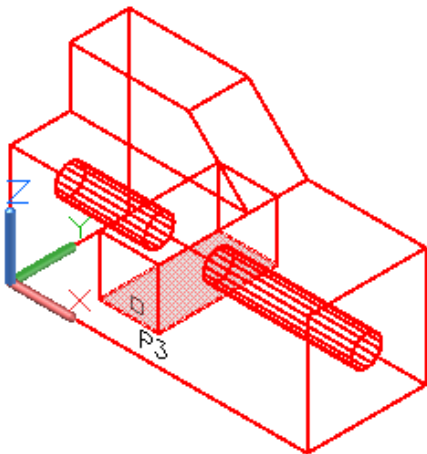

Figure Step 8A
Step 8 Click the Extrude Faces icon and complete the command, as shown below, to extrude the face to the bottom. (Figure Step 8A and 8B)